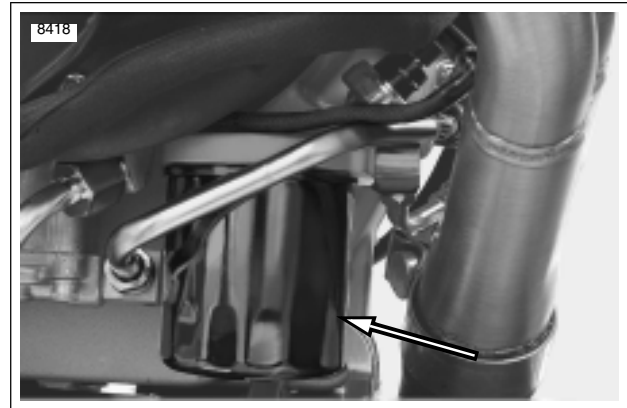

Figure 1-6. Oil Filter
2. See Figure 1-6. Remove oil filter using pliers or belt type OIL FILTER WRENCH.